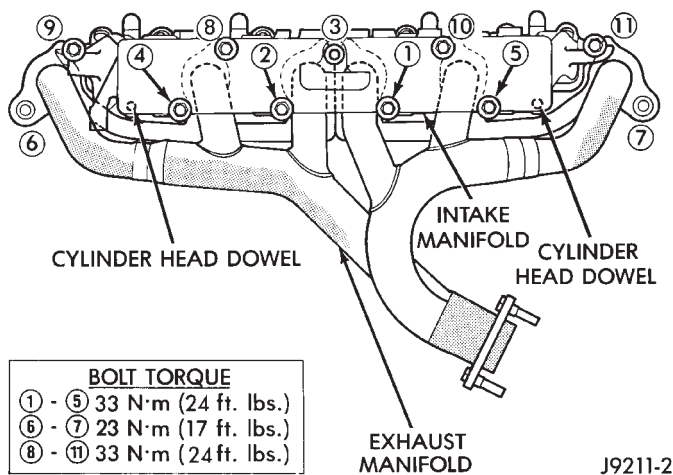

Fig. 6 Engine Exhaust/Intake Manifold
- (1) Install a new engine exhaust/intake manifold gasket over the alignment dowels on the cylinder head.
- (2) Position the engine exhaust manifold to the cylinder head. Install fastener No.3 and finger tighten at this time (Fig. 6).
- (3) Install intake manifold on the cylinder head dowels.
- (4) Install washers and fasteners Nos.1, 2, 4, 5, 8, 9, 10 and 11 (Fig. 6).
- (5) Install washers and fasteners Nos.6 and 7 (Fig. 6).
- (6) Tighten the fasteners in sequence and to the specified torque (Fig. 6).
- (7) Install the fuel rail and injectors (refer to Group 14, Fuel System).
- (8) Install the power steering pump and bracket to the intake manifold. Tighten the belt to specification (refer to Group 7, Cooling System for the proper procedures).
- (9) Install the fuel system supply and return lines to the fuel rail assembly. **Before connecting the fuel system lines to the fuel rail replace the O-rings in the quick-connect fuel line couplings. Refer to Group 14, Fuel System for the proper procedure.**
- (10) Connect all electrical connections on the intake manifold.
- (11) Connect the vacuum connector on the intake manifold and install it in the bracket.